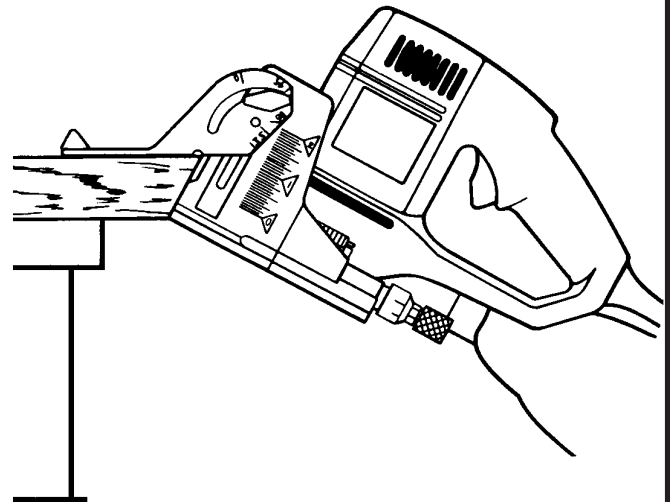

Fig. 18
- When making edge miter joints with workpieces that have different thicknesses, clamp securely to a workbench with the long sides up. This will assure that the outside surfaces will match. See Figure 18.
- Place your plate joiner on workpiece with the adjustable fence resting on the long side of workpiece as shown in figure 18. The base or vertical fence should be against the mitered edge of the workpiece.